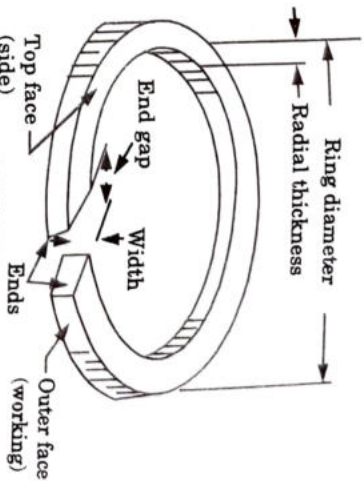

Fig. 2.3.2
1. The construction of piston ring and nomenclature of its various parts is shown in (Fig. 2.3.2).